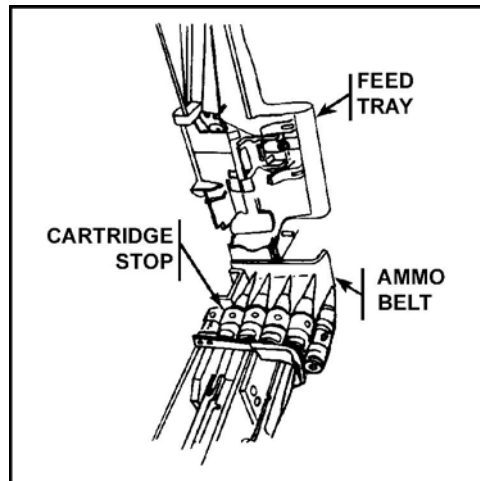

Figure 5. Cartridge stop.
- c. Place the ammunition belt in the feed tray with the first cartridge resting against the cartridge stop (Figure 5).